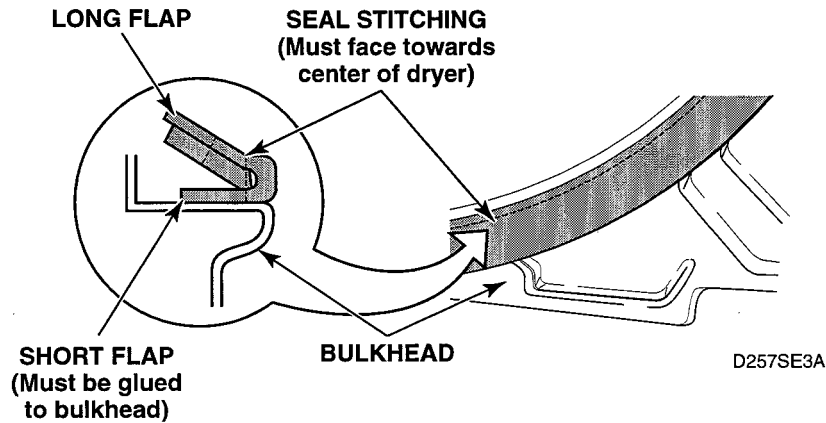

Figure 5-24
- i. Front Cylinder Seal (Figure 5-24)
- (1) The stitching on the seal must face towards the dryer center. See figure 5-24.
- (2) The short flap, shown in figure 5-24, must be glued to the bulkhead and the long flap left loose.